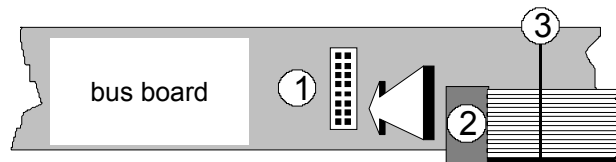

Fig. 2: Connecting the ribbon cable to the bus board.
- Now join the free end of the ribbon cable (see ② in Fig. 2) to the nearest available position on the system bus board (see ① in Fig. 2).